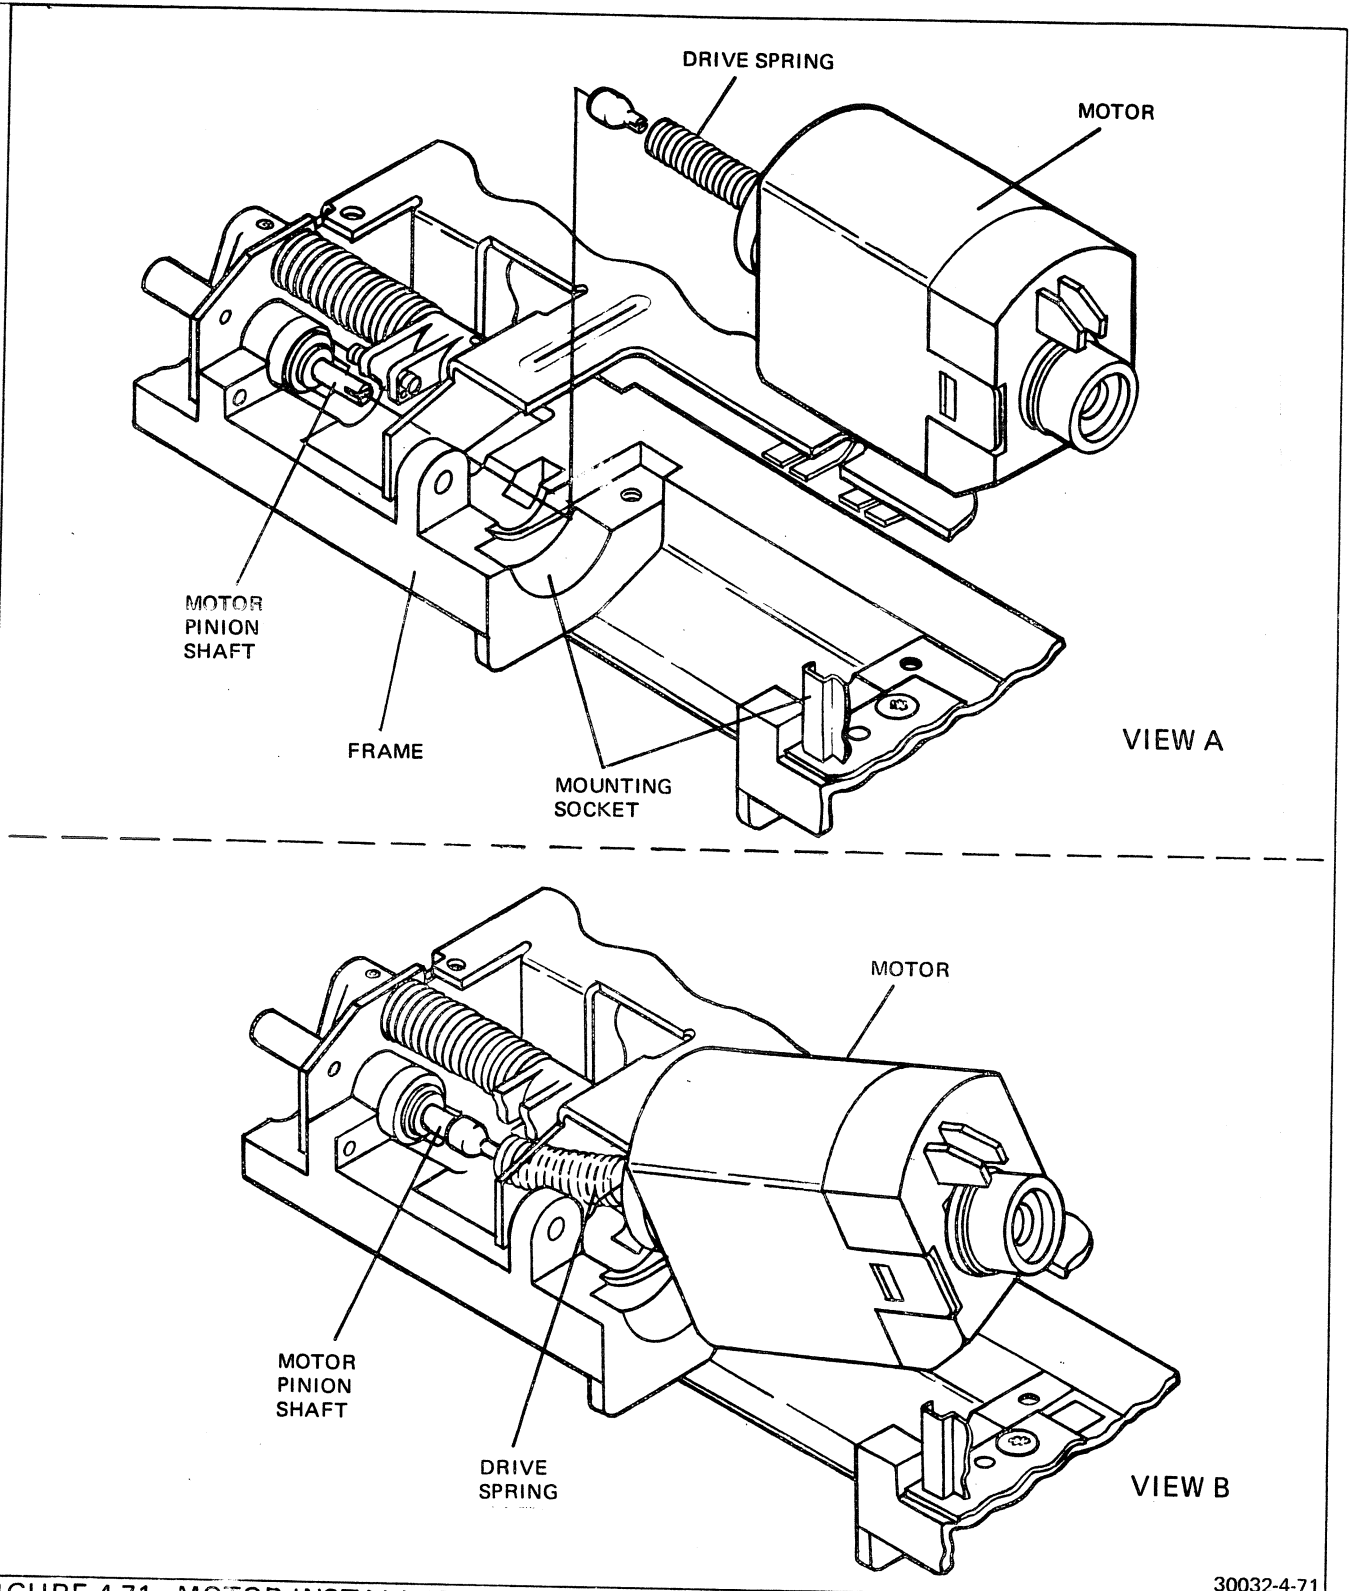

FIGURE 4-71 MOTOR INSTALLATION
3. Refer to Figure 4-71. Hold the motor as shown. The motor pinion shaft can be rotated by manually operating the gear train. Rotate the shaft so that the cross tang on the coupling spring is correctly aligned with the slot in the coupling.